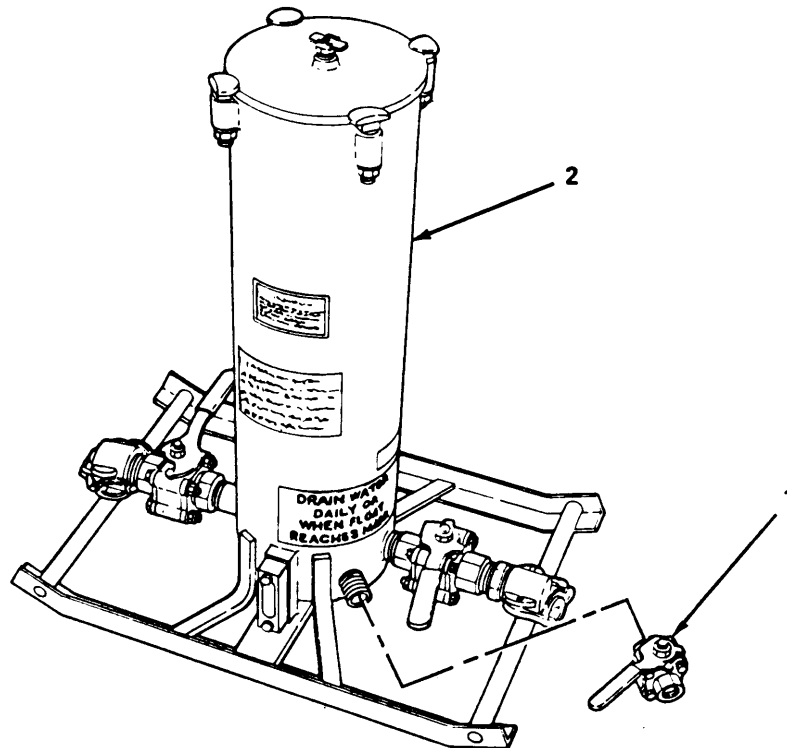

Figure 4-8. Water Drain Valve, Repair.
(3) *Water drain valve.* (figure 4-8)